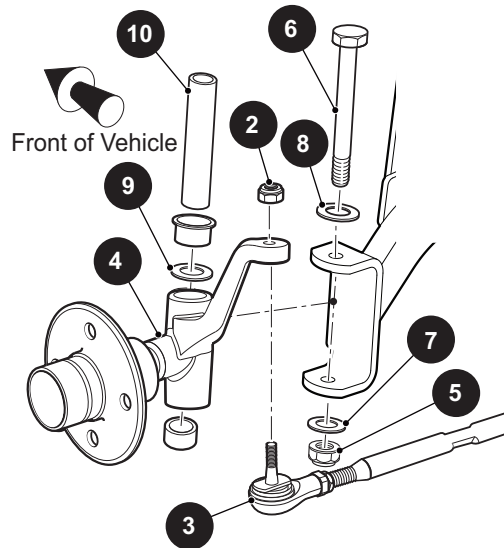

Figure 16 Spindle Replacement
4. To remove the tie rod, loosen the lock nut (2) until the tie rod ball joint (3) threads are protected (Figure 16). Using a ball joint separator as a lever, apply pressure to the ball joint and tap the nut with a plastic faced hammer to release the tie rod from the spindle arm (4). Remove the nut from the tie rod and tie rod from the spindle arm.
5. Remove lock nut (5) and washer (7) from the bolt (6). Discard the nut (5). Pull bolt (6) and washer (8) from the spindle and separate the spindle from the axle. Remove the thrust washer (9) and the king pin tube (10) from the spindle.